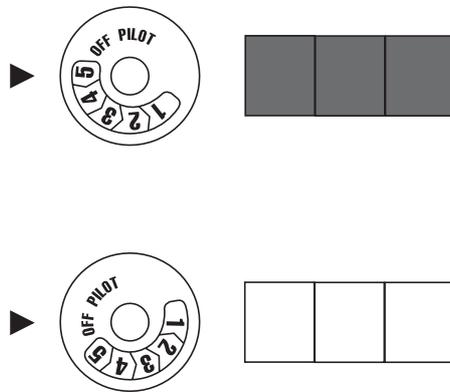

Fig. 12 Burner Patterns
8. Turn thermostat control knob counterclockwise  to the desired heating level. The main burner should light. Set control knob to any heat level between HI and LOW (see fig. 12).